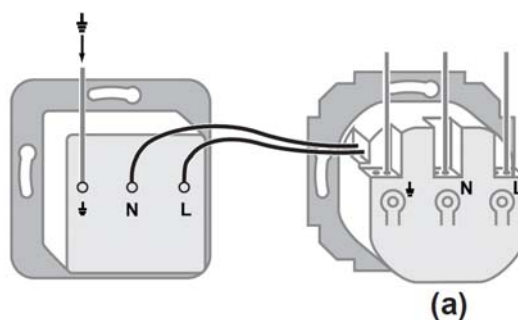

Figure 3
The residual-current protected outgoing feeders (see Figure 3) are used to connect socket-outlets or other consumers.
- Connect the outgoing feeders to the socket-outlet or consumer (Figure 3).
- Press lug ((a), Figure 3) on the back of the residual-current circuit-breaker and pull out terminal lead.